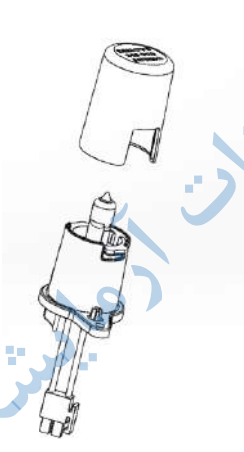

Fig. 4
6. Carefully remove the replacement lamp from the packaging and remove the protective cover from the lamp assembly (Fig 4). Ensure that the glass portion of the lamp is not touched as finger marks will damage the lamp resulting in a reduced performance. If accidental damage occurs the surface of the lamp may be cleaned using propan-2-ol.